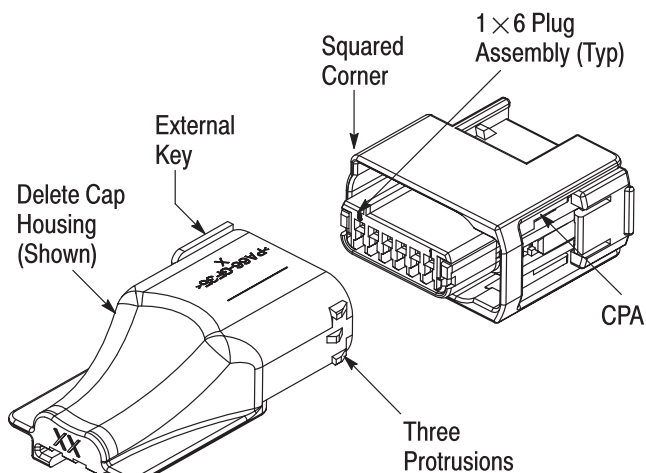

Figure 2
1. Orient the plug assembly so that the connector position assurance (CPA) is aligned with the three protrusions of the delete cap and the squared corner (located opposite the CPA) is aligned with the external key of the delete cap. See Figure 2.